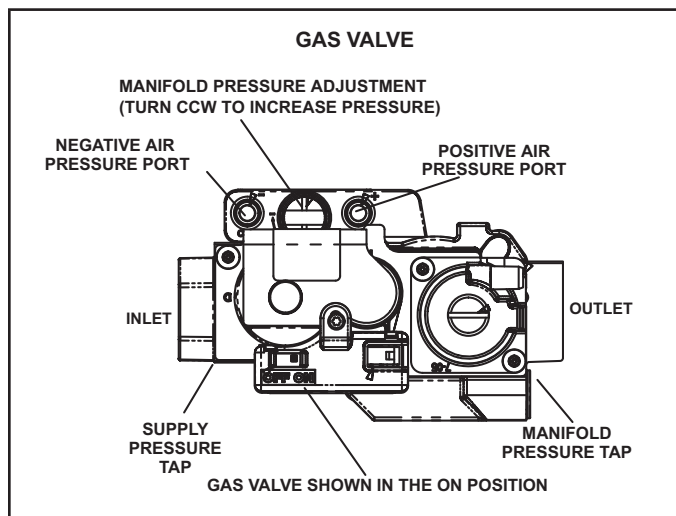

FIGURE 25
Gas Valve Operation (FIGURE 25)
- 6 - Move switch on gas valve to OFF. Do not force. See FIGURE 25.
- 8 - Move switch on gas valve to ON. Do not force. See FIGURE 25.